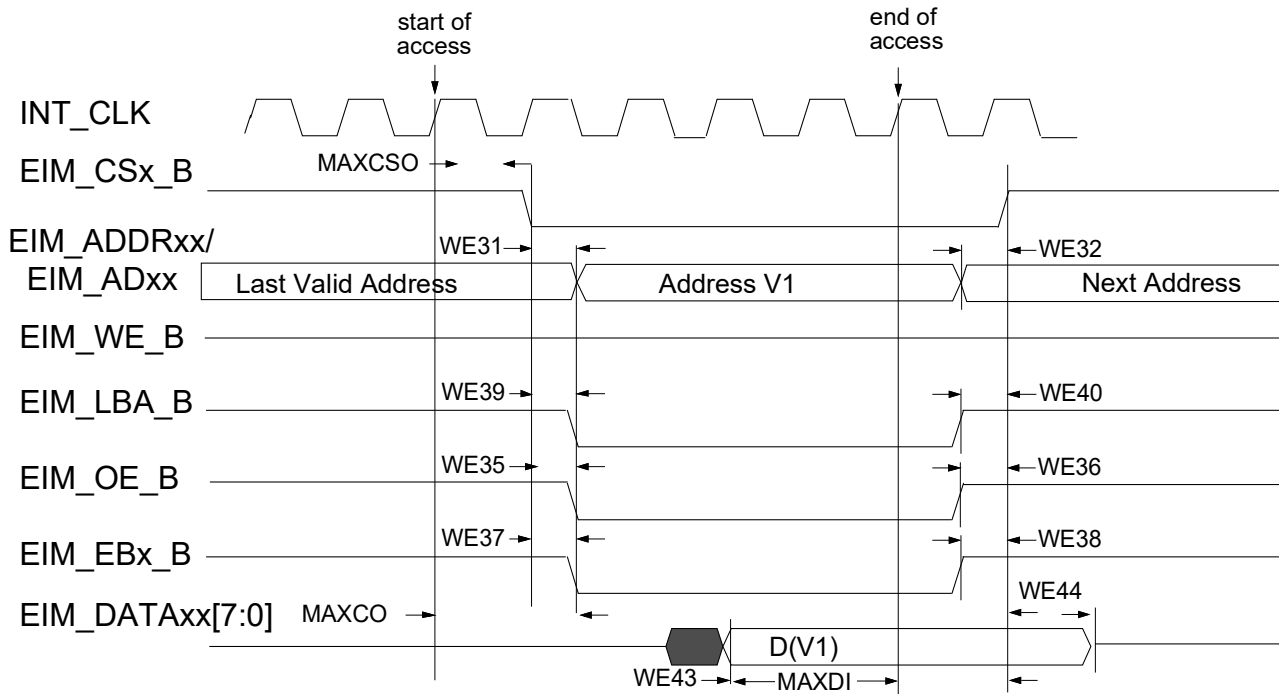
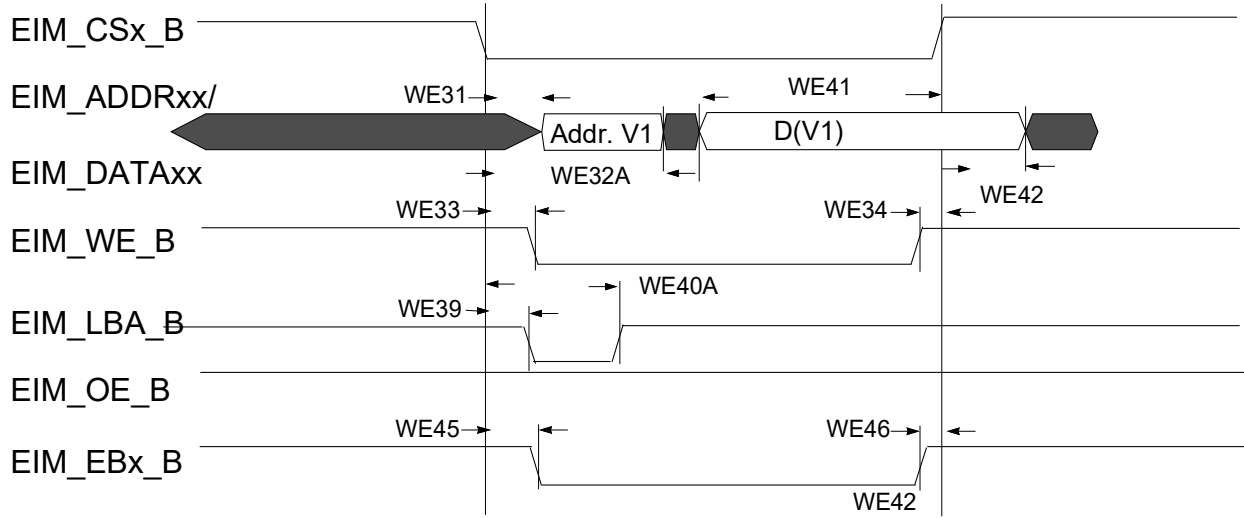
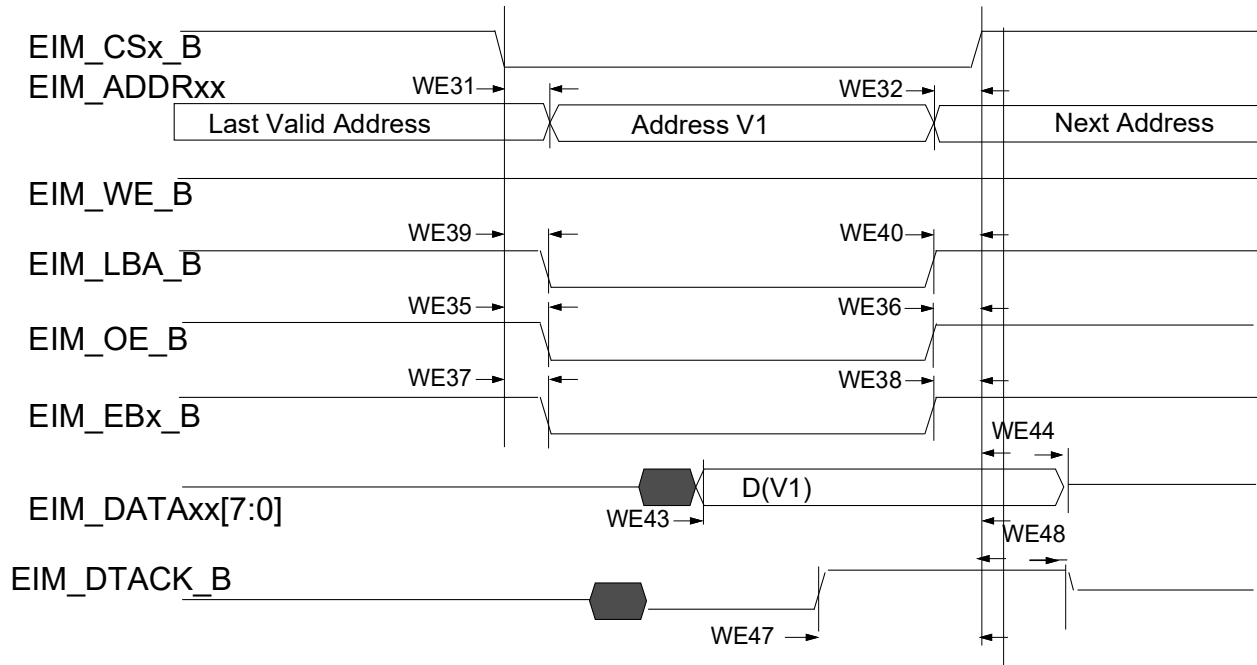

Figure 18. Asynchronous memory read access (RWSC = 5)
Figure 21. Asynchronous A/D muxed write access
Figure 22. DTACK mode read access (DAP=0)
Figure 18 through Figure 22, and Table 39 help you determine timing parameters relative to the chip select (CS) state for asynchronous and DTACK EIM accesses with corresponding EIM bit fields and the timing parameters mentioned above.
Asynchronous read & write access length in cycles may vary from what is shown in Figure 18 through Figure 21 as RWSC, OEN and CSN is configured differently. See the *i.MX 7Solo Application Processor Reference Manual* (IMX7SRM) for the EIM programming model.